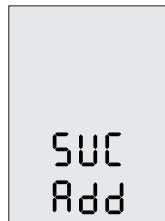

Figure 6-10
**Step6:** After pairing, the LCD panel will display as Figure 6-10 for 5s, then returning to home page automatically.